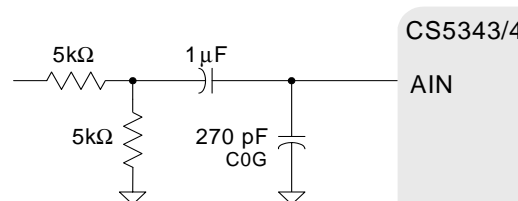

Figure 4. CS5343/4 Typical Input Circuit
Figure 4 shows the typical analog input network for the CS5343/4. The component values shown are not mandatory, but this particular circuit has four features that make it ideal for most applications, as discussed below. Please see the CS534/4 datasheet for more information regarding component selection.
- **Attenuation:** This circuit also attenuates the analog input signal by 6 dB. This further simplifies the interface between consumer equipment and the ADC because most consumer equipment generate 2 V_{rms} line voltage. The circuit in Figure 4 attenuates the incoming signal from 2 V_{rms} to 1 V_{rms}, which is the full-scale input voltage of the CS5343/4 when $V_A = 5V$.